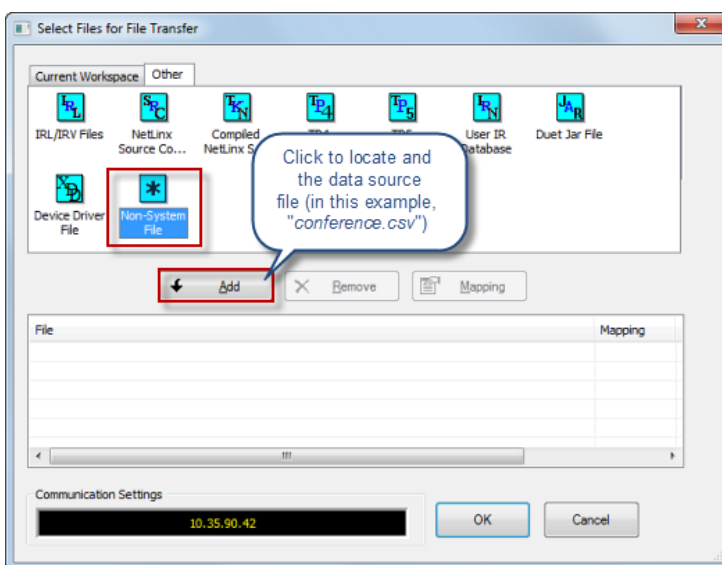

FIG. 160 NetLinX Studio 4 - Select Files for File Transfer dialog
3. Click **Add** to open the *Select Files for File Transfer* dialog, and open the *Other* tab (FIG. 160):